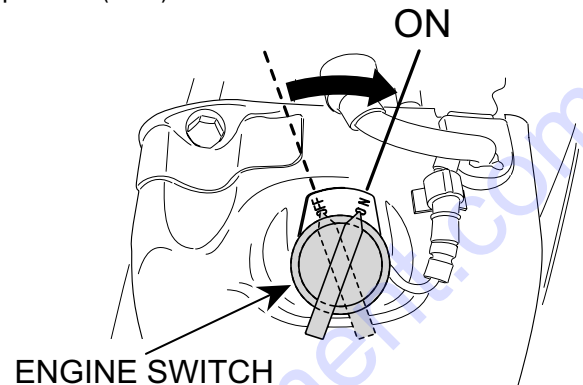

Figure 14. ON/OFF Switch (ON Position)
2. Set the engine ON/OFF switch (Figure 14) to the "ON" position (start).